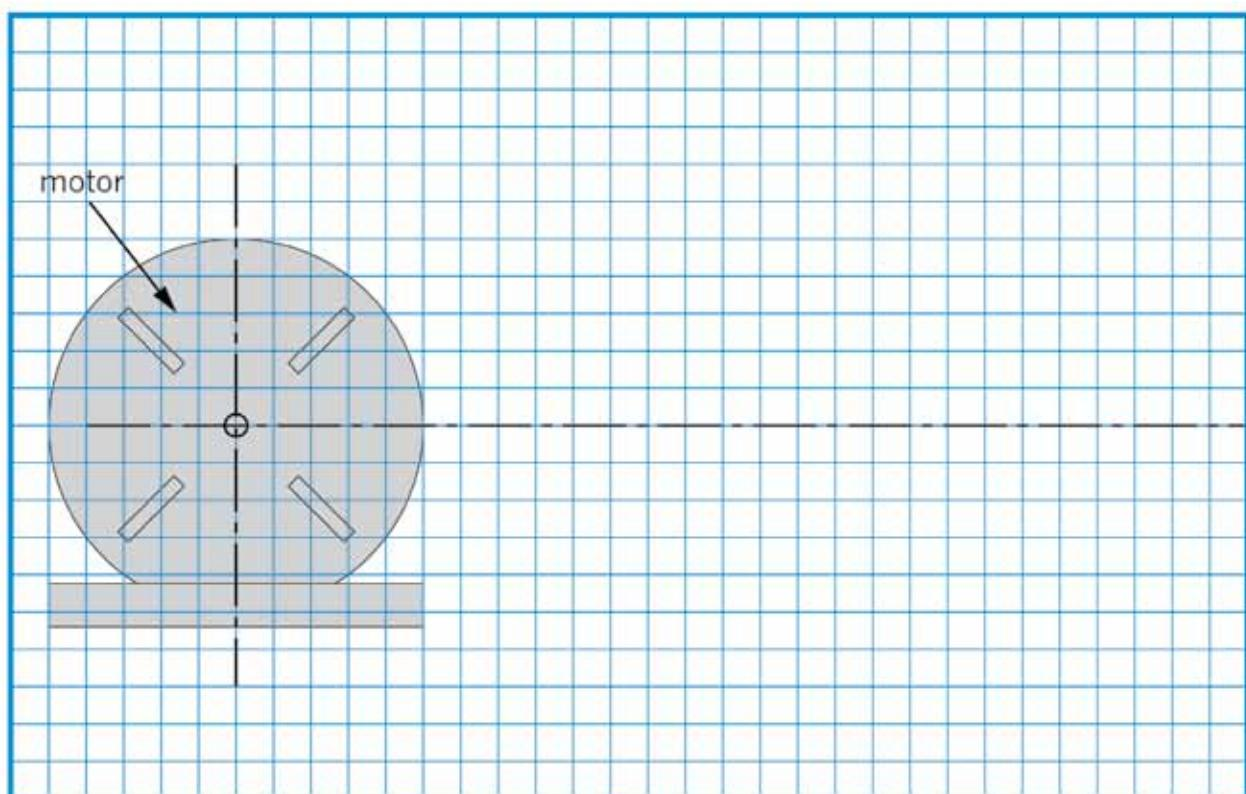

Figure 16: Use this grid to show how you will improve the winch.
5. Complete the drawing in Figure 16 to show how you will improve the winch.